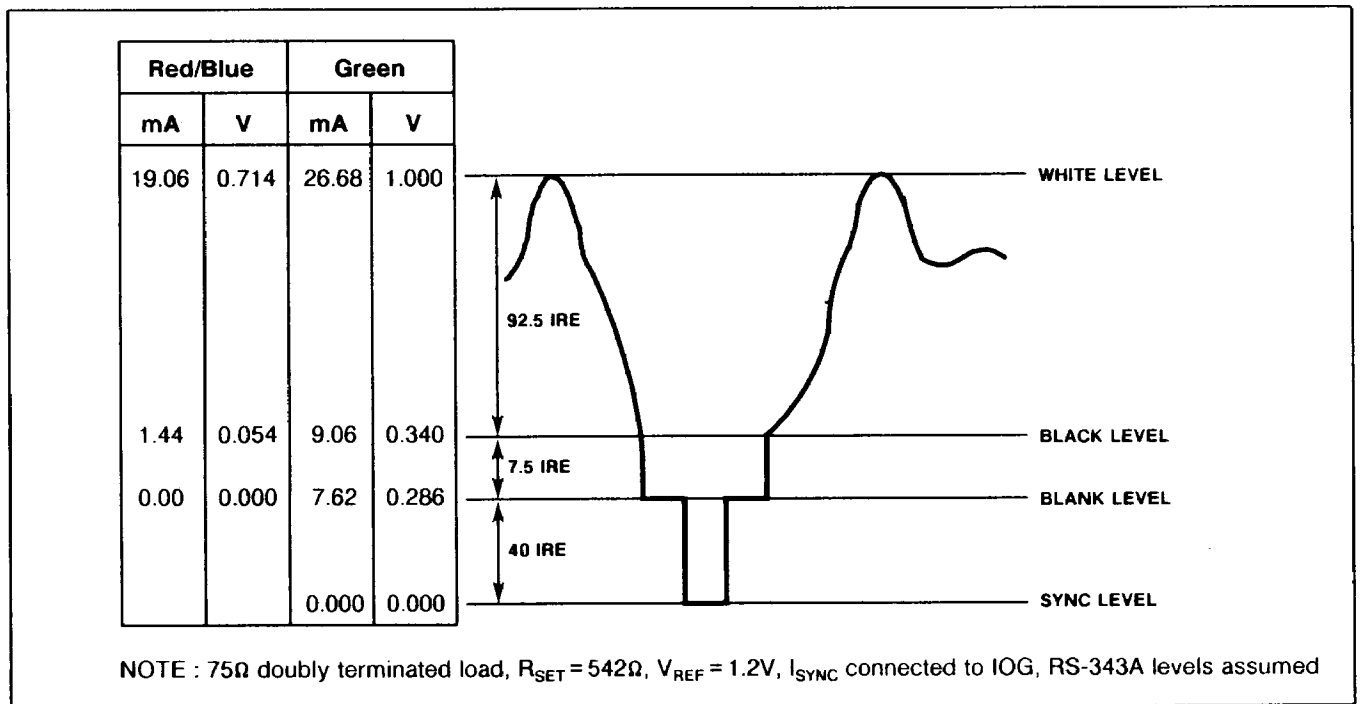

Fig.3 Composite video output waveform
SYNC and BLANK are latched on the rising edge of the clock to maintain synchronisation with the colour data. These inputs add appropriately weighted currents to the analog outputs, producing the specific output levels required for video applications as shown in Fig. 3. Table 1 details how the SYNC, BLANK and REF WHITE inputs modify the output levels.
FS ADJUST	Full scale adjust control. A resistor (R _{SET}) connected between this pin and AGND controls the magnitude of the full video signal (Fig. 3). The current flowing in the R _{SET} resistor is equal to 32 LSBs. Note that the IRE relationships in Fig. 3 are maintained, regardless of the full scale output current. The relationship between R _{SET} and the full scale current on IOG (assuming I _{SYNC} is connected to IOG) is: $\text{IOG (mA)} = 12082 \times \frac{V_{\text{REF}} \text{ (V)}}{R_{\text{SET}} \text{ (}\Omega\text{)}} \cong 387 \text{ LSBs}$ The full scale output current on IOR and IOB for a given R _{SET} is defined as: $\text{IOR, IOB (mA)} = 8624 \times \frac{V_{\text{REF}} \text{ (V)}}{R_{\text{SET}} \text{ (}\Omega\text{)}} \cong 276 \text{ LSBs}$